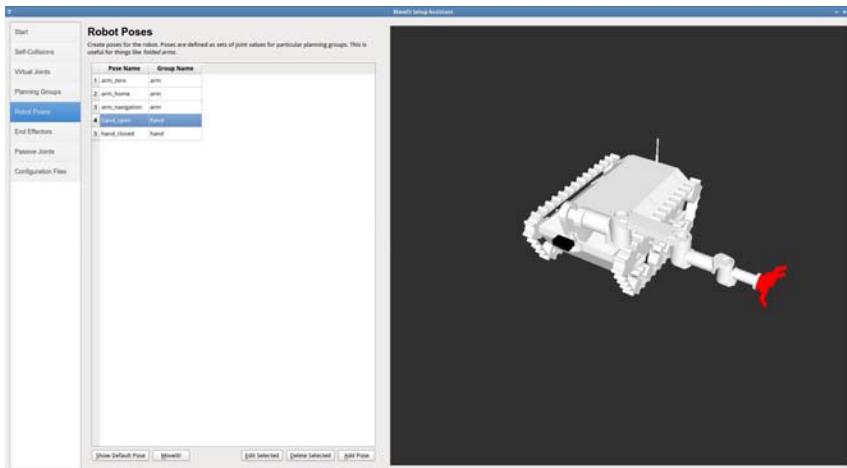

Figura 7.9.: MoveIt! Setup Assistant - Robot Poses - Hand Open
- Mano abierta (hand_open, ver Figura 7.9).